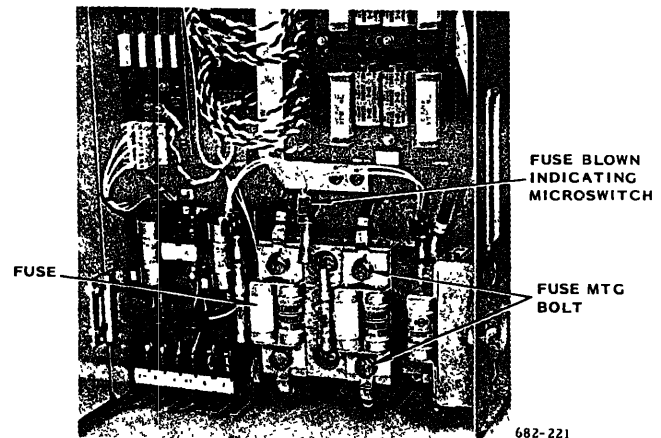

Fig. 19 Main Circuit Fuse Assembly (460 V, 105 A)
1. Pull up the fuse blown indicating microswitch with the leads connected. (Fig. 19)